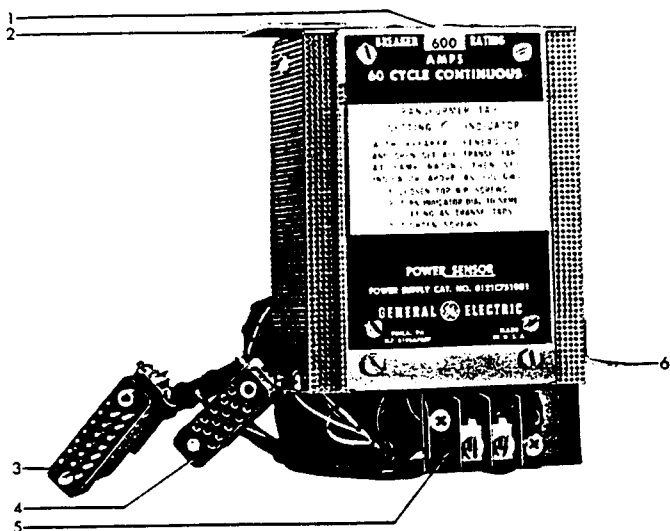

Fig. 15. (8039850) Power Supply
2. The Power Supply which provides both the tripping energy and the comparison basis for overcurrent detection (Figure 15).
POWER SUPPLY (Figure 15).